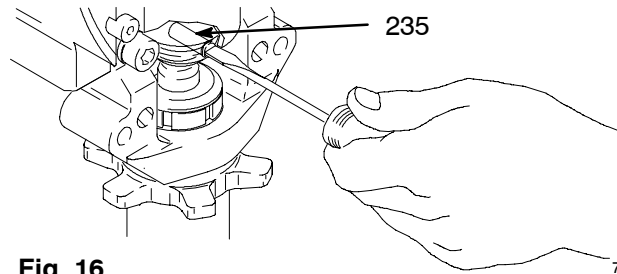

Fig. 16 7675B
5. Fig. 16. Use screwdriver: push retaining spring up and push out pin (235).
2. Fig. 16. Push pin (235) into hole. Push retaining spring into groove around connecting rod.